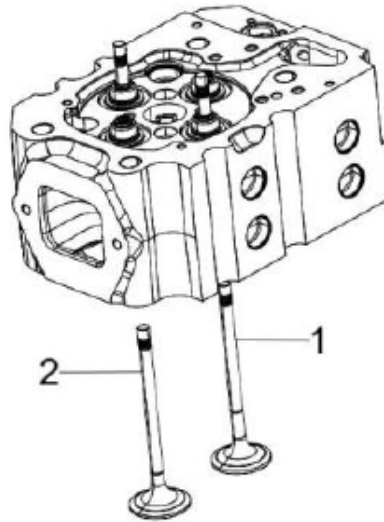

Figure 71. Valve Assembly
4. Place all the valves (Figure 71, 1 & 2) in their proper location in the cylinder head.